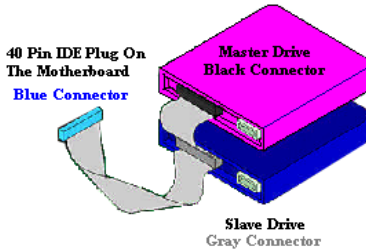

Figure 2-10. How to connect an ATA/66 Cable to the Motherboard
- Attach the **BLACK** connector to the mating plug on the master hard drive. Attach the **GREY** connector to the mating plug on the slave drive (secondary hard drive, CD-ROM, or tape drive). Please refer figure 2-10.